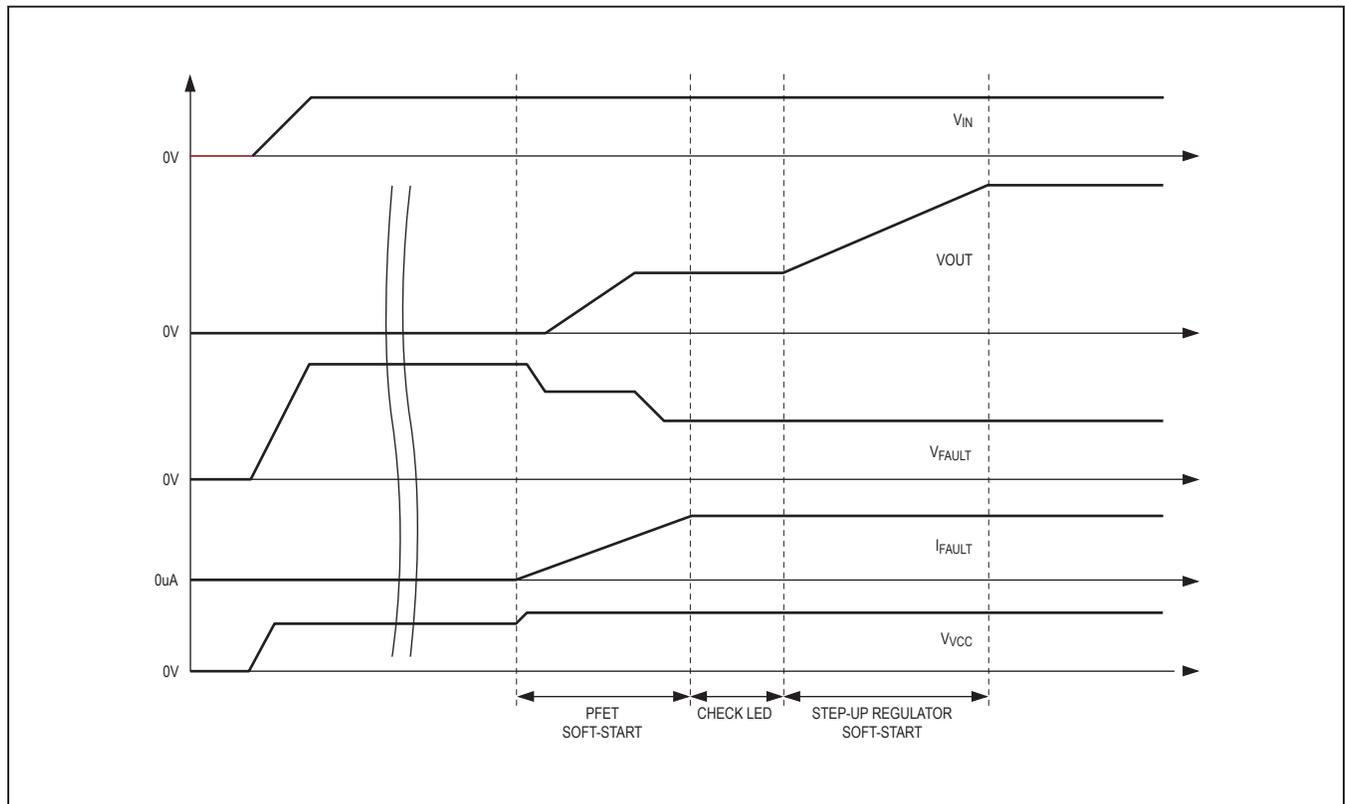

Figure 3. Startup Timing Sequence
0.8mA (typ, 0.4mA min) current source during 1ms (typ). If some FB\_ voltage is lower than 1.2V (max), the string is considered to be unused. Therefore, when a string is not in use, it should be connected to SGND. All other strings with FB\_ higher than 1.2V (max) are detected as in use. After the LED string diagnostic phases are finished, the step-up regulator starts. The total startup time is less than 10ms. Figure 3 shows the sequence.